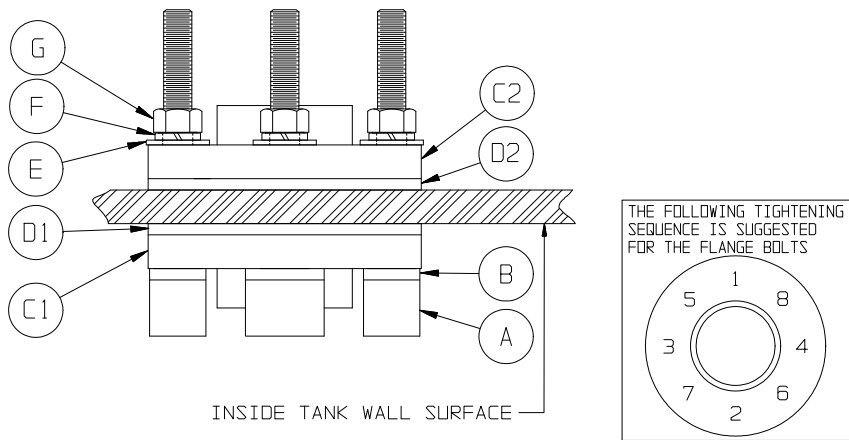

Figure 6.2
6.3.1 The bolted flange fitting shall be constructed with 2 ea. 150 lb. flanges (C1 and C2), 2 ea. 150 lb. flange gaskets (D1 and D2), the correct number of full threaded bolts (A), bolt gaskets (B), flat washers (E), lock washers (F), and hex nuts (G) for the flange specified. NOTE: If the tank wall thickness is greater than or equal to 0.75", the inner flange (C1) and the inner flange gasket (D1) may be omitted in certain low stress applications only. Please consult factory prior to omitting any components or the tank warranty may be voided. Refer to Figure 6.2 for part identification.
6.3.2 Disassemble the fitting as shipped by removing the bolt's hex nuts, lock washers, flat washers, outer flange, and outer flange gasket. Locate the fitting hole on the inside of the tank and insert the bolts (still installed on the inner flange and gasket) through the drilled holes in the tank. Place the outer flange gasket over the bolts on the outside surface to the tank. Place the outer flange over the outer gasket and bolts. Install the flat washers, lock washers, and hex nuts on the bolts. Check to make sure the fitting assembly appears as shown in Figure 6.2.